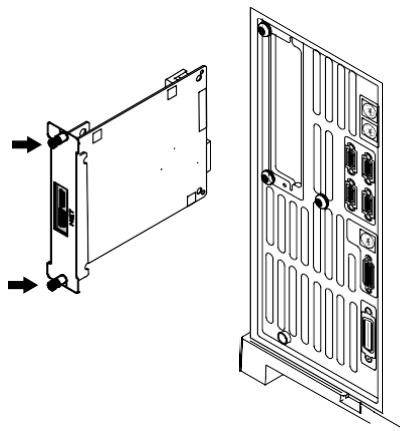

Figure 38. Removing the LAN card
- 8 If an MIO card (LAN card) is installed, loosen its two mounting screws and slide the card out of the GC (Figure 38).